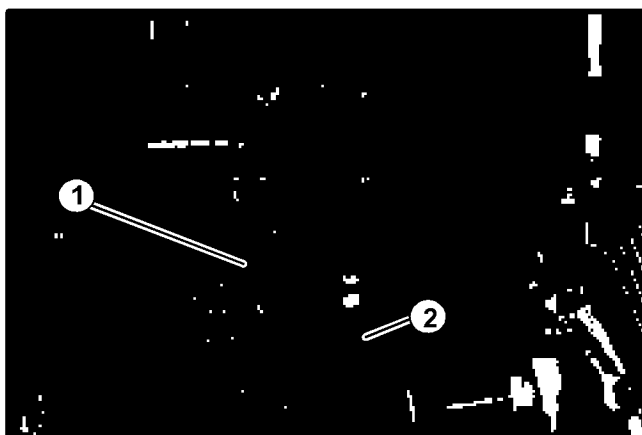

FIGURE 17
2. Loosen primary drive chain adjustment screw (See FIGURE 17).